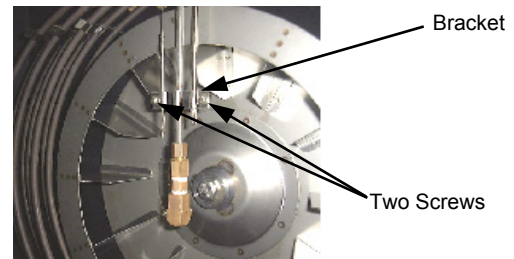

Figure 6.3.9
- 2) Remove bracket on steam line inside oven cavity by undoing the 2 screws (Figure 6.3.9).